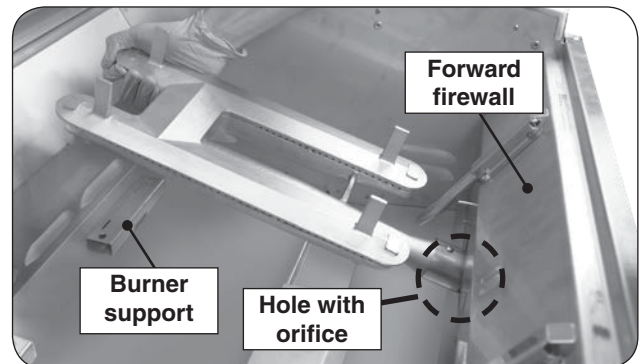

Fig. 34-3 Remove burners
3. Carefully lift the burner from the burner support and out from the hole in the forward fire wall. See Fig. 34-3.